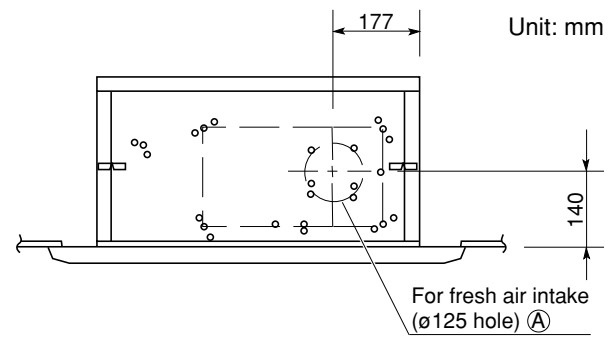

Fig. 3-5
If the system requires fresh air to be drawn into the unit, cut and remove the insulation (both externally and internally) at the location shown as (A) in Fig. 3-5.